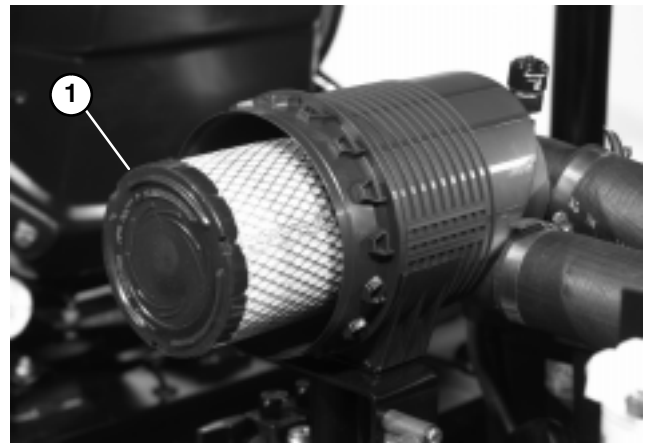
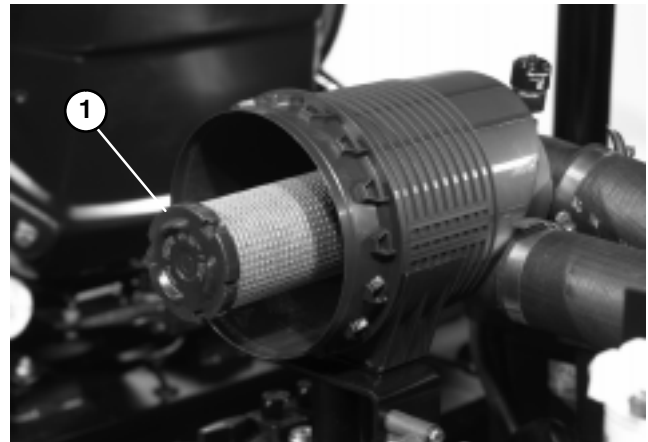

Figure 43
Figure 44
2. Gently slide primary filter (Fig. 43) out of air cleaner body to reduce the amount of dust dislodged. Avoid knocking filter against air cleaner body. **Do not remove safety filter (Fig. 44).**